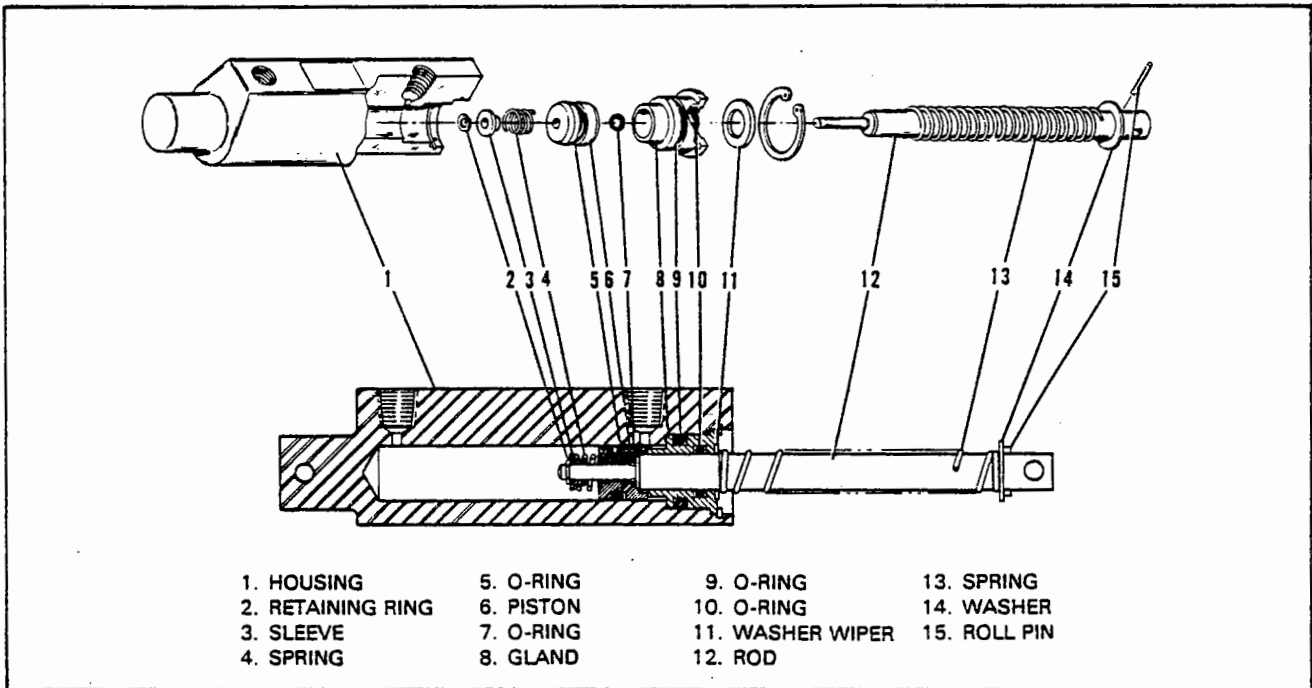

Figure 32-15. Brake Cylinder (10-30) (Toe Brake)
1. Cleveland cylinder number 10-30. (Refer to Figure 32-15.)